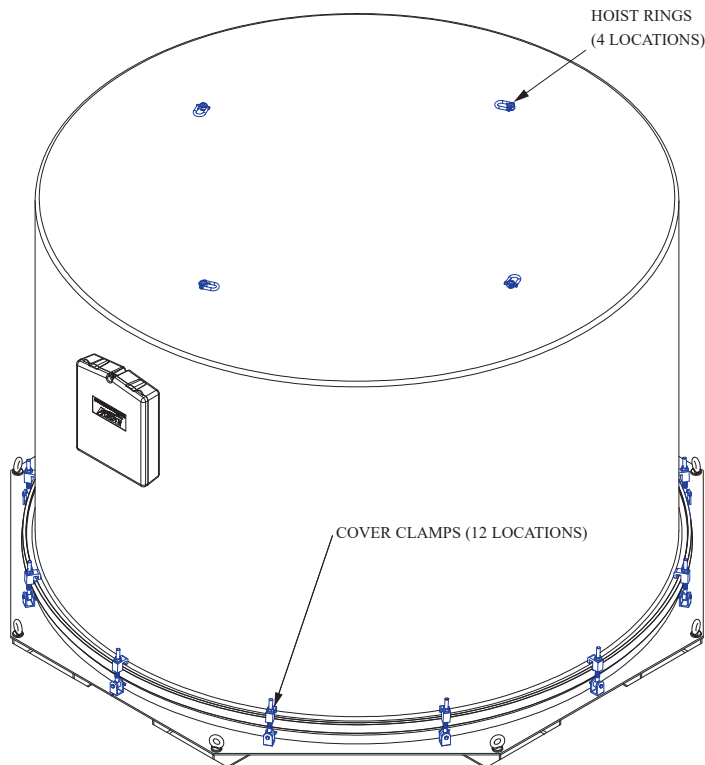

Figure 5.1-1. AGSE-C009-G01- FAN AND BOOSTER CONTAINER
2. Release the cover clamps (12), remove cover (approx. 363 lbs.) using hoisting system by the four (4) designated hoist rings on the top of the cover. (Figure 5.1-1)
1. Check and tighten all socket head screws on the six (6) clamps on the fan & booster support ring.
2. Install cover using a hoisting system by the four (4) hoist rings on top of the cover and secure by tightening the hex nuts on the twelve (12) container clamps. (Figure 5.1-1)
- 1) Remove container cover assembly by loosening eight (12) hex nuts of the container clamps. The cover can be lifted using a hoisting system by the four (4) hoist rings on top of the cover. (See Fig. 5.1-1).Set the cover aside.
- 5) Install the container cover and secure by tightening the hex nuts on the twelve (12) container clamps. (Figure 5.1-1)